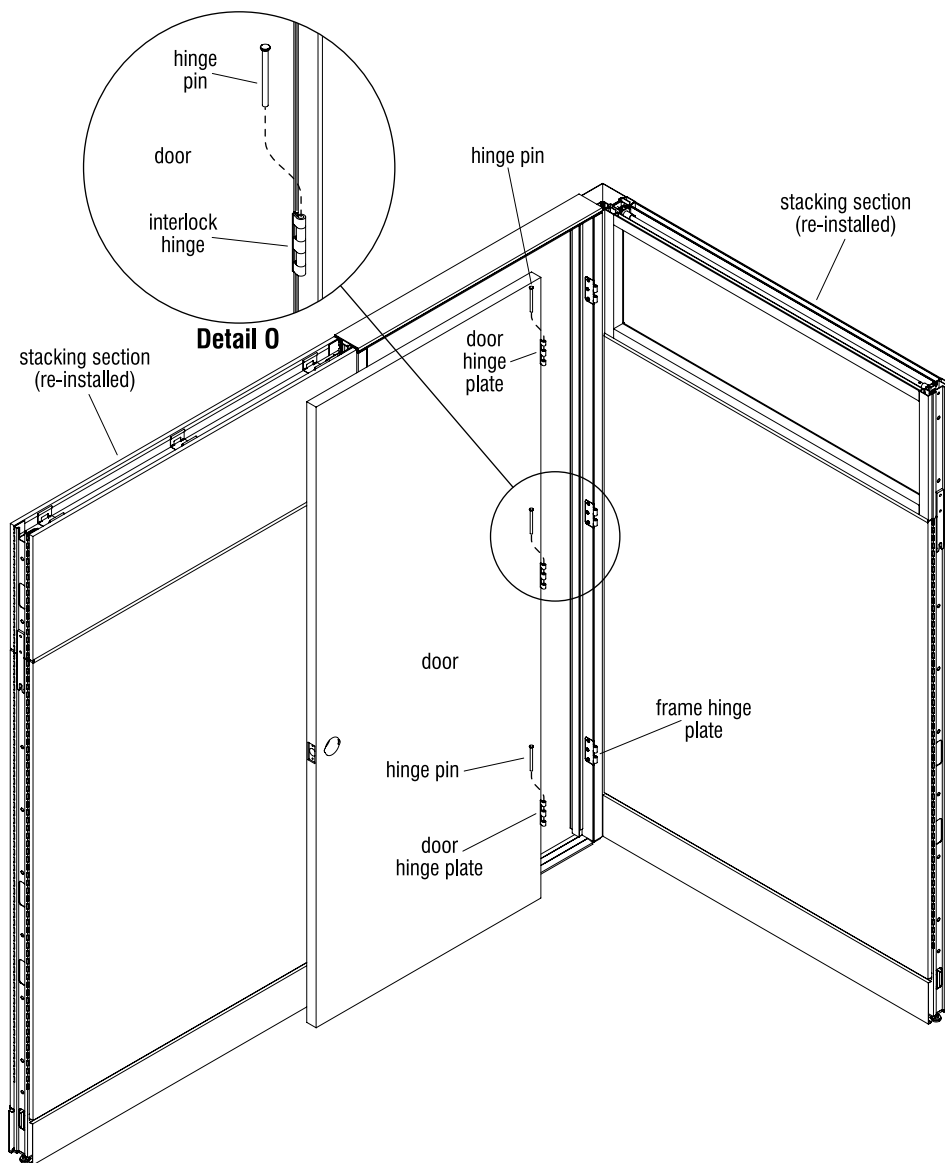

Figure 7
17. Carefully place door inside of the room which will receive it. Lift door into position and interlock the door hinge pin sleeves with the frame hinge pin sleeves. Install hinge pins into each interlocked hinge from the top down as illustrated (Figure 7 & Detail O).